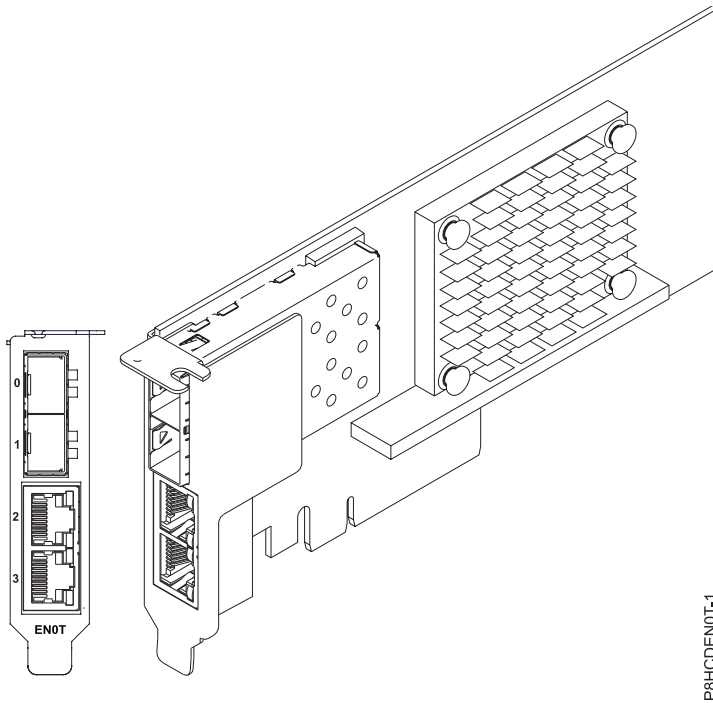

Figure 39. FC EN0T adapter
The four-port adapter provides two 10 Gb small form-factor pluggable (SFP+) optical SR transceiver ports and two 1 Gb RJ45 Ethernet ports. The two 10 Gb SR ports have little connector (LC) duplex-type connectors. The optical transceiver uses shortwave laser optics and is attached with MMF-850nm fiber cabling with LC connectors. See “Cables” on page 53 for more information about the optical cables. Each 10 Gb port provides Ethernet connectivity with a nominal data rate of 10 Gbps (gigabits per second). Figure 39 on page 52 shows the FC EN0T adapter.